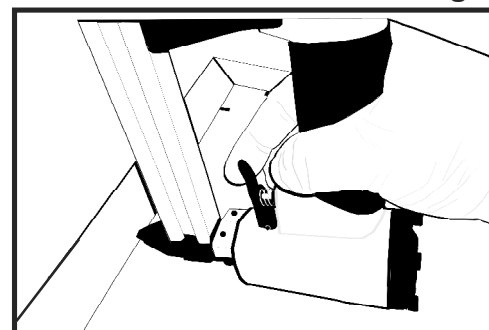

Fig 4
2. Rest the nose of the tool against the rabbet of frame with the tool inverted as shown. (**Fig 4**)